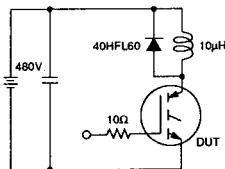

Fig 12a. Clamped Inductive Load Test Circuit
- ② $V_{CC} = 80\%$ (BV_{CES}), $V_{GE} = 20V$, $L \geq 10 \mu H$, $R_G = 10\Omega$, (See figure 12a)
- ③ Pulse width $\leq 80 \mu s$; duty factor $\leq 0.1\%$.
- ④ Pulse width $\leq 5 \mu s$, single shot
- ⑤ K/W equivalent to $^\circ C/W$